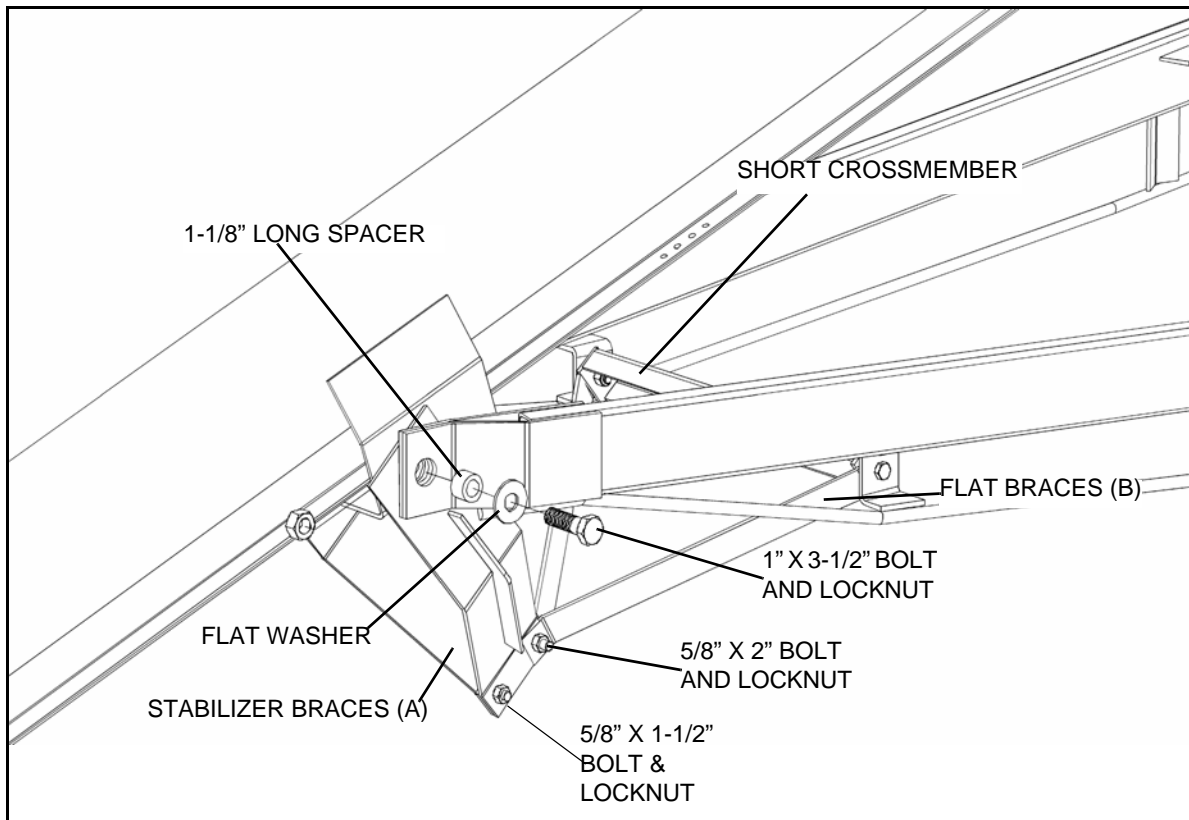

Figure 3.35
2. Attach short crossmember loosely with two 5/8" x 2" bolts and locknuts, sandwiching flat braces (B) between crossmember and frame bracket. Do not tighten bolts until undercarriage is beneath tube assembly (Figure 3.35).
12. Position stabilizer braces (A) (Figure 3.35) and attach lower reach arms to bracket on tube with long spacer bushings (1-1/8" long), flat washers, and 1" x 3-1/2" bolts and locknuts. **Tighten securely.** Reach arms pivot on the spacer bushings.